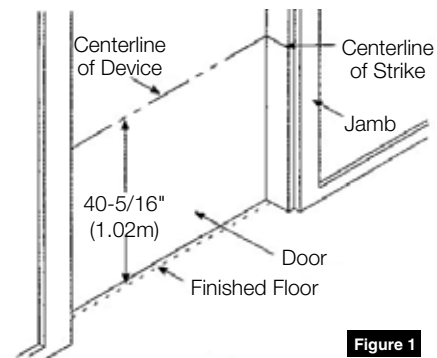

Figure 1
1. Establish horizontal centerline of device by drawing line across door and stop, 40-5/16" (1.02m) above finished floor unless doors have been pre-prepped. (Figure 1)